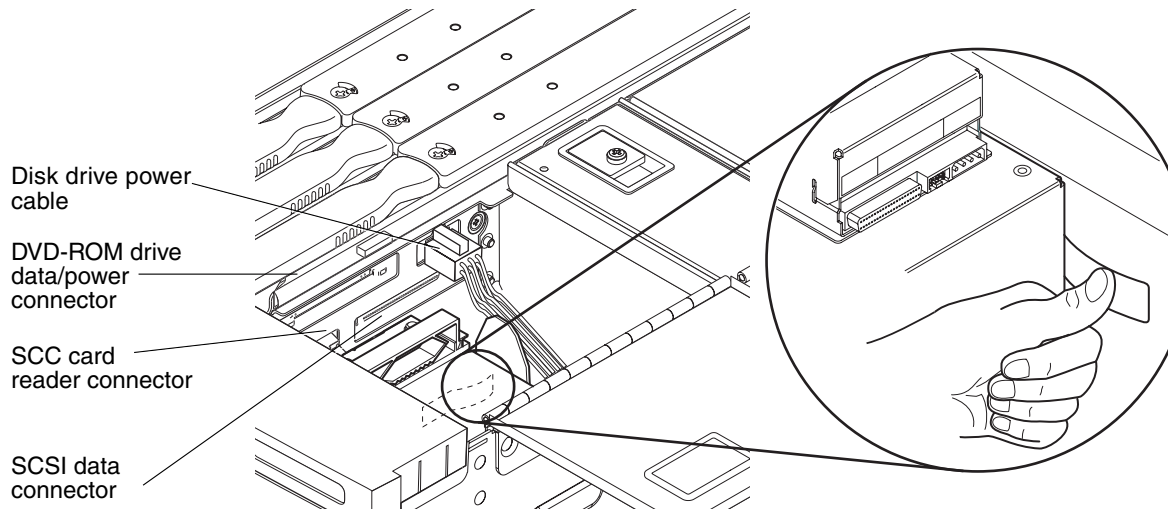

FIGURE 5-7 IB_SSC Assembly Cable and Connector Locations
9. Remove the following cables from the IB_SSC assembly: hard disk drive power cable, SCSI data cable, SCC card reader cable, and DVD-ROM drive data/power cable (FIGURE 5-7).
5. Reconnect the cables to the IB_SSC assembly (FIGURE 5-7).